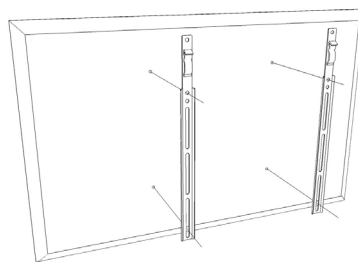

Figure 5
- b. Spacers are commonly needed on TVs with curved backs or recessed screw inserts. The screw will thread through the appropriate washer (P), any spacer needed (F) and the arms into the TV.
- c. Ensure the arms are installed flat side to TV and are square to each other after all screws have been installed (Figure 5).